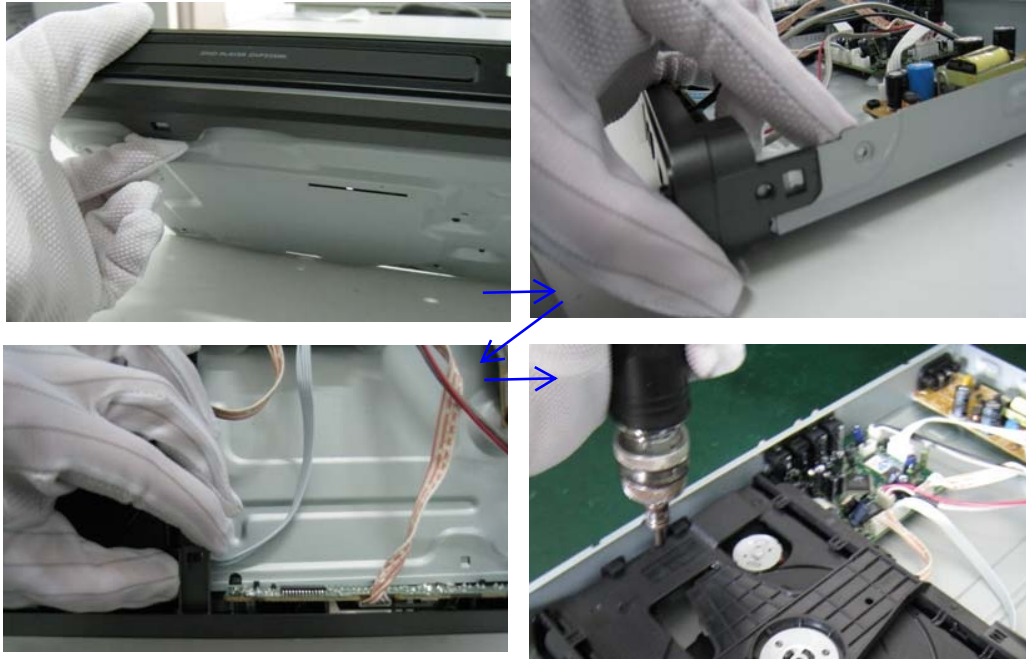

Figure 5
Step5: Dismantling Loader, disconnect the 3 connectors (HA1,J3) aiming in the below figure, and remove 1 screw that connects the loader and the bottom cabinet. (Figure 5)